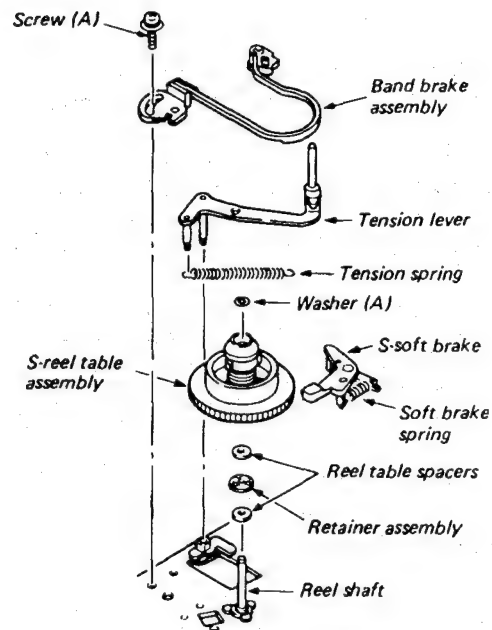

Fig. 1-3-33 Supply reel table assembly replacement
1. Remove the S-soft brake spring from the S-soft brake. (Fig. 1-3-33)
4. Remove the screw (A), then remove the tension lever and the band brake assembly.